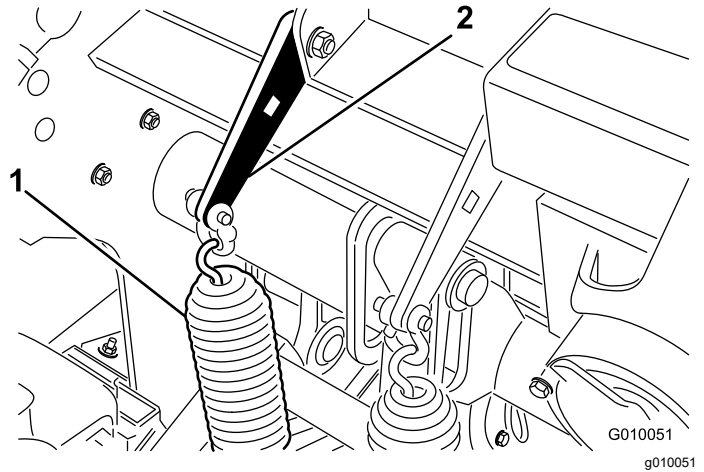

Figure 27
2. Loosen the carriage bolt nuts securing the spring brackets to the coring head (Figure 27). Do not remove them.